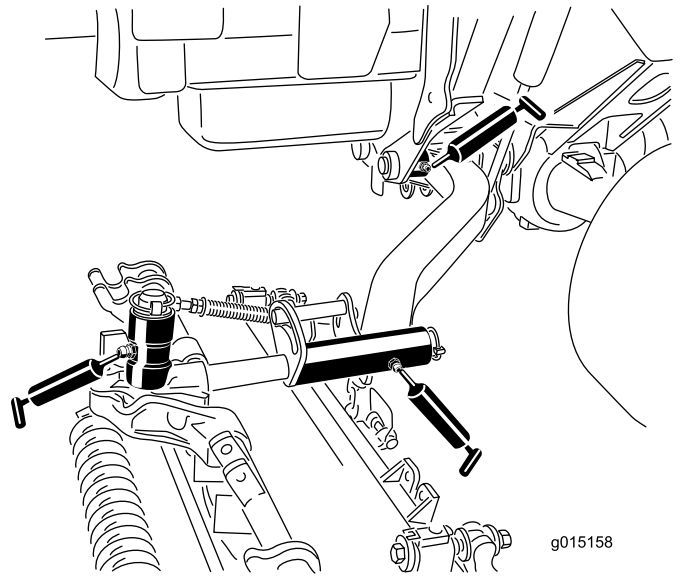

Figure 47
- Lift arm pivot bushings (1 per cutting unit) (Figure 47)
- Cutting unit carrier frame (2 per cutting unit) (Figure 47)
- Cutting unit lift arm pivot (1 per cutting unit) (Figure 47)